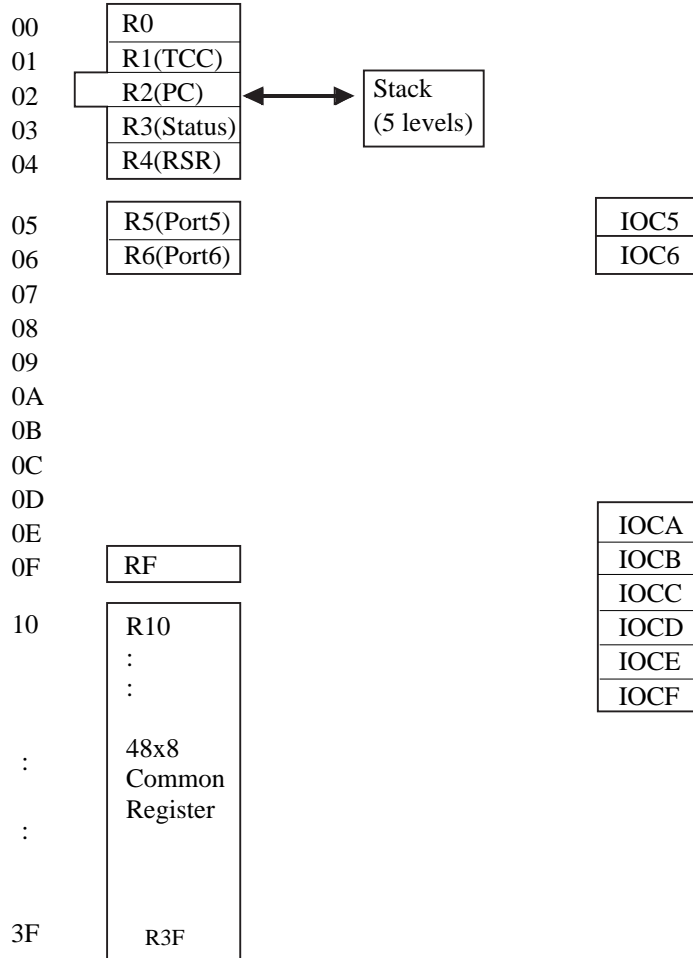

Fig. 4 Data memory configuration
- See the configuration of the data memory in Fig.4.